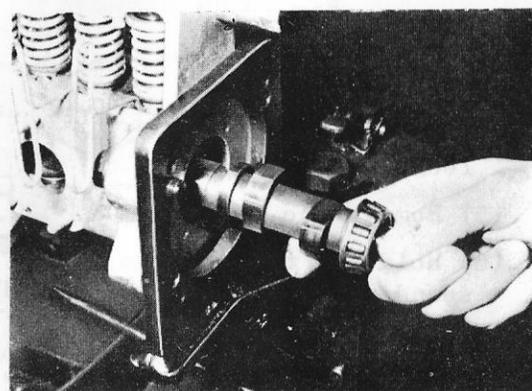

Fig. 9-33
- 2) Pull out the camshaft carefully lest it should contact with adjacent parts. (Fig. 9-33)